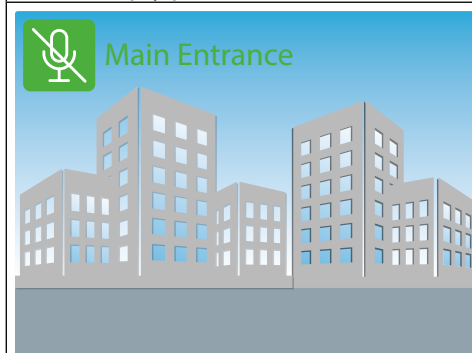
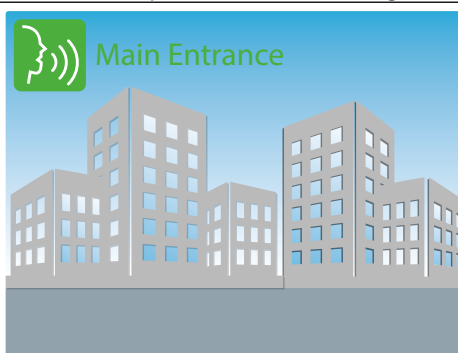

Fig. 40 Connection established with handset mic muted
Fig. 41 Full duplex speech enabled
- Once connected, the display shows the video coming from the door panel and two way speech is available via the videophones handset. Using the IP Wizard, if required, it is possible to set the recall to initially mute the speech from inside to outside (**Fig. 40**).
- To enable the speech from inside and start the conversation, press and keep pressed the **O** button until the display shows the speech symbol (**Fig. 41**).
- With the speech mute (**Fig. 40**) or open (**Fig. 41**), by pressing momentarily the **O** button you can manually take a picture of the visitor (**Fig. 42**).